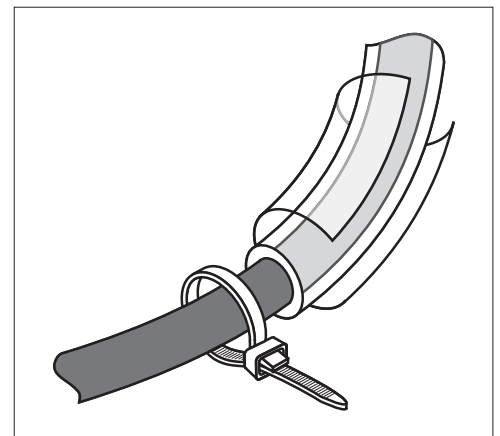

Figure 1
4. Once WireGuard is in place, wrap the second end of WireGuard with the enclosed pre-cut WireGuard clear tape (Figure 1).
5. To prevent the WireGuard from sliding toward the sensor, place the enclosed cable tie around the sensor wire next to the sensor end of the WireGuard (one extra cable tie included). Fasten the cable tie so that it is firm around the sensor wire but does not compress it (Figure 1). Cut the excess length off the cable tie.